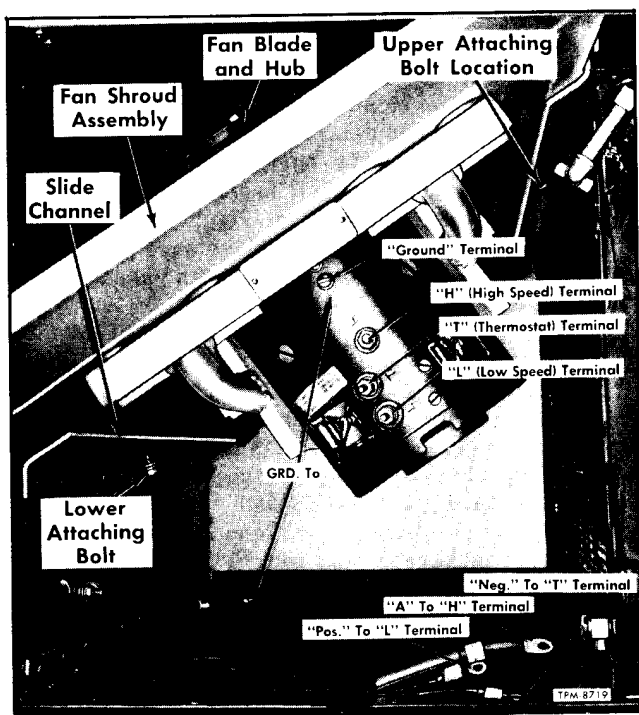

Figure 44—Replacing Blower Assembly
(Refer to Figure 44)
3. Referring to figure 44, connect wiring to respective terminals. Tighten terminal nuts firmly.